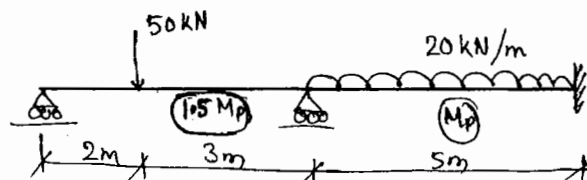

Fig Q4(c)
c. Determine the plastic moment capacity (M_p) for the beam loaded as shown in Fig Q4(c). Use load factor 1.6. (10 Marks)